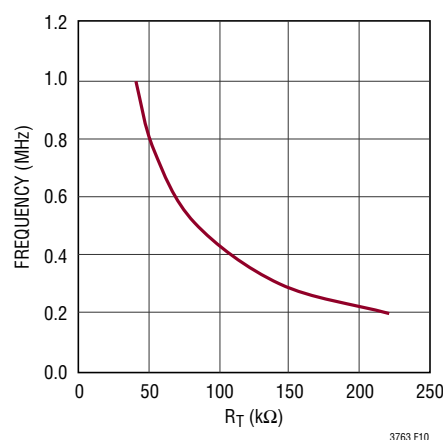

Figure 10. Frequency vs R_T Resistance
The LT3763 has an operational switching frequency range between 200kHz and 1MHz. This frequency is programmed with an external resistor from the RT pin to ground. Do not leave this pin open under any condition. The RT pin is also current-limited to 55μA. See Table 4 and Figure 10 for resistor values and the corresponding switching frequencies.
Figure 10 is a line graph showing the load regulation of the converter. The y-axis represents the output voltage V_{OUT} in Volts (V), ranging from 0 to 8. The x-axis represents the load current I_{LOAD} in Amperes (A), ranging from 0 to 24. The graph shows a constant output voltage of 5V for load currents from 0A to 20A, after which the voltage drops sharply to approximately 1.5V at 22A. The graph includes the following parameters: $V_{IN} = 12V$, $V_{OUT} = 5V$, and $I_{LIMIT} = 20A$.
Figure 10 is a line graph showing Efficiency (%) on the y-axis (ranging from 80 to 100) versus Load Current (I_{LOAD} (A)) on the x-axis (ranging from 0 to 24). The graph shows a red curve representing efficiency. The efficiency starts at approximately 80% at 0A, rises sharply to about 95% at 4A, and then gradually decreases to about 92% at 20A. The input voltage $V_{IN} = 12V$ and output voltage $V_{OUT} = 5V$ are specified.
Figure 10 is a line graph showing Efficiency (%) versus Load Current (I_{LED} (A)). The y-axis ranges from 80 to 100 in increments of 5. The x-axis ranges from 0 to 12 in increments of 3. The efficiency starts at 80% at 0A, rises sharply to about 97% at 1A, and then gradually increases to a peak of approximately 98.5% at 6A, remaining relatively constant up to 10A. The operating conditions are $V_{IN} = 48V$ and $V_{OUT} = 35V$.